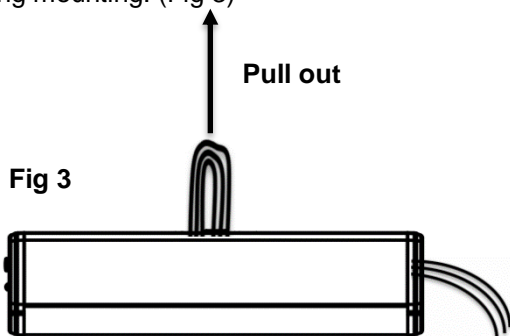

Fig 3
2. Pull out all AC wires from top of fixture for wall and ceiling mounting. (Fig 3)